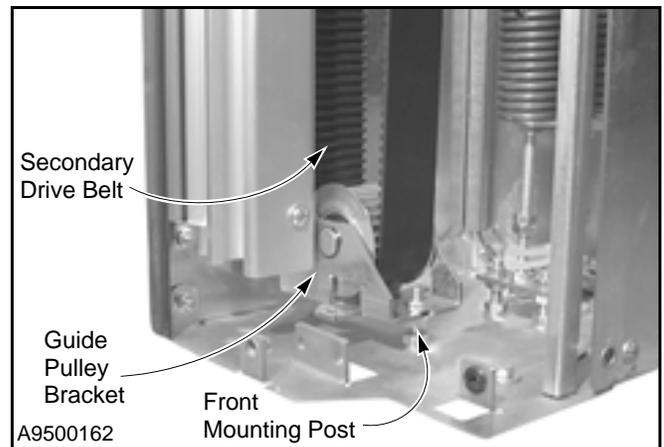

Figure 79
8. Release the tension from each secondary drive belt by removing the guide pulley bracket from its front and rear mounting posts. The pulley bracket is held in place by a nut threaded onto each post. (See Figure 79.)